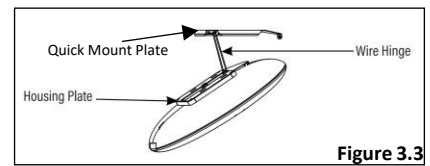

Figure 3.3
- Hang the fixture to the Quick Mount Plate by the Wire Hinge. [Fig. 3.3]